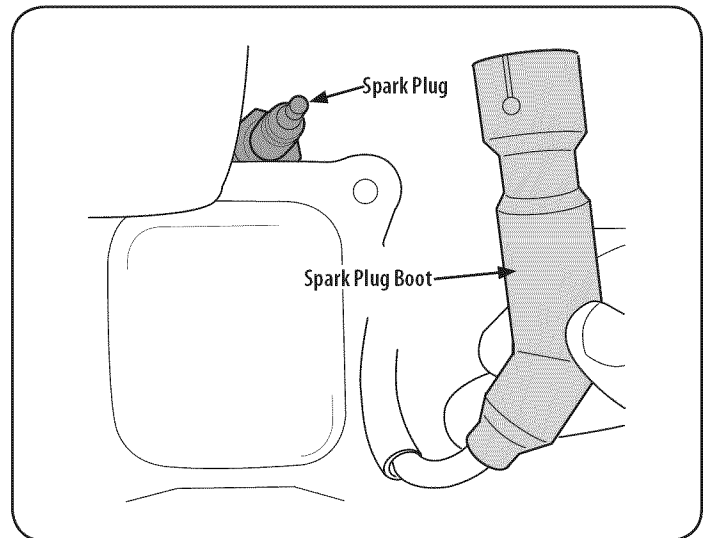

Figure 15
2. Remove the spark plug boot and use a spark plug wrench to remove the plug, see Figure 15.